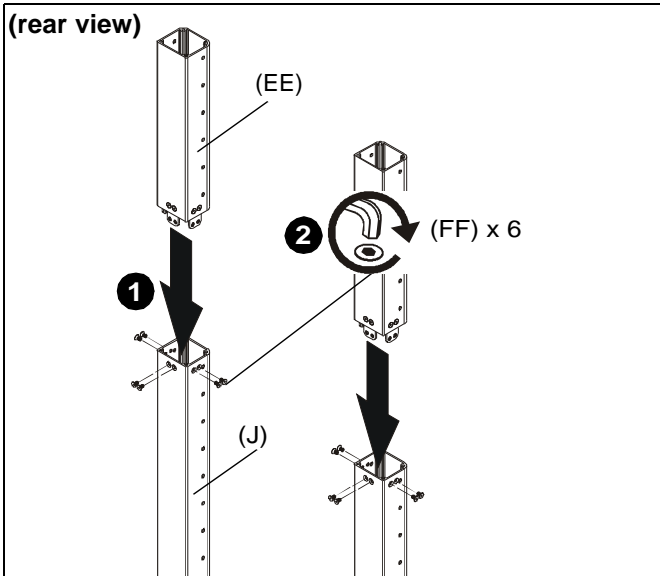

Figure 4
1. Insert one column add-on (EE) to each column (J) making sure holes are lined up on each side. (See Figure 4)
2. Use 5/32" hex key (CC) and six 1/4-20 x 1/2" flat head cap screws (FF) to secure each column add-on (V) to each column (J). (See Figure 4)